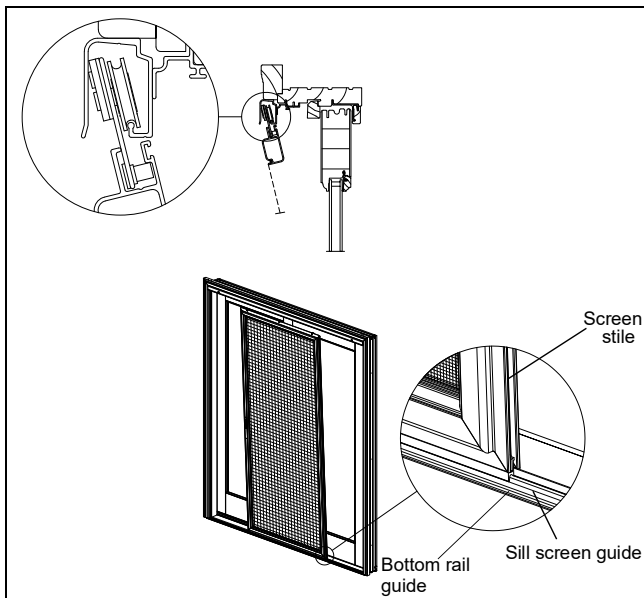

Figure 2
- From the exterior, lift the screen and insert the roller bar assembly attached to screen into the roller track. Rest the bottom rail guide on the roller track. See figure 2.